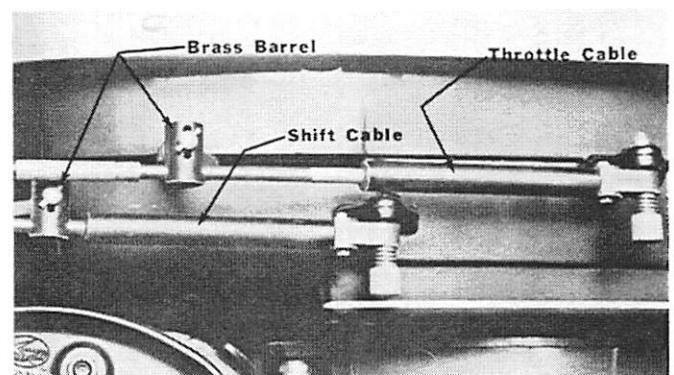

Figure 9. Cable Adjustments
3. Align brass barrel on throttle cable so that distributor is held lightly against idle stop screw with cable installed. (Figure 9)
6. If necessary, readjust brass barrel on cable to accomplish correct final adjustment. (Figure 9)